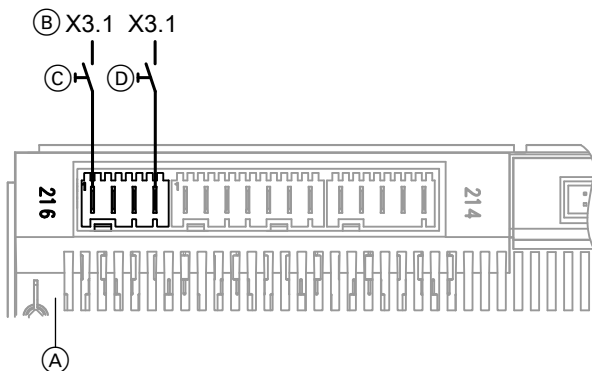

Fig. 25
- To the heat pump control unit as shown in Fig. 25